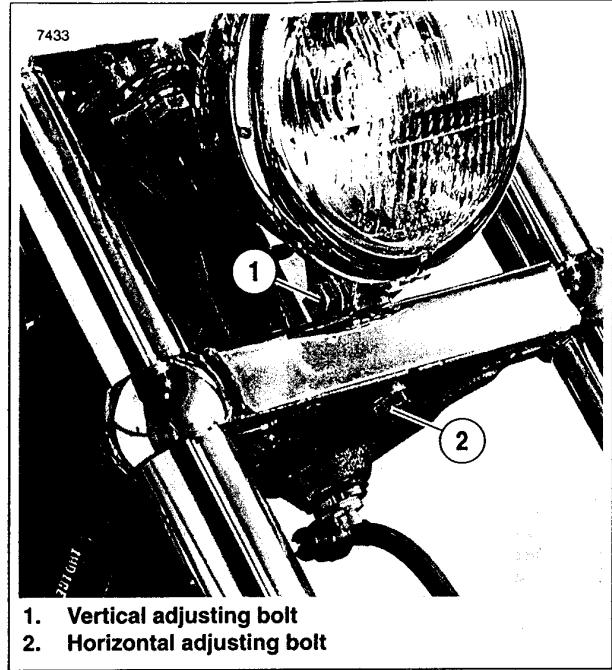

Figure 1-70. FXDWG Adjustments
1. See Figure 1-70. Loosen horizontal adjusting bolt (2) to adjust headlamp beam side to side. Tighten bolt to 25-30 ft-lbs (33.9-40.7 Nm).
2. Loosen nut on vertical adjusting bolt (1) to adjust headlamp beam up or down. Tighten nut to 25-30 ft-lbs (33.9-40.7 Nm).